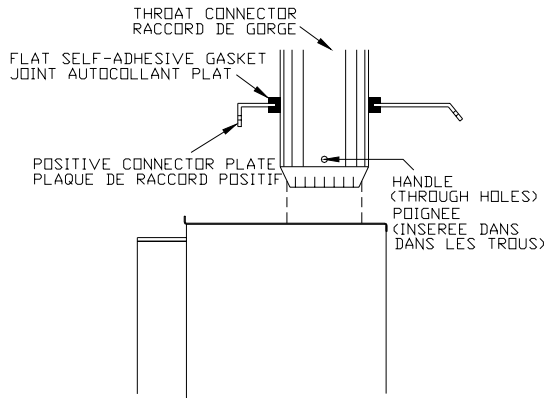

Figure 2
- D. Install the flat self-adhesive gasket around the inside of the 6" diameter (152mm) hole in the plate. Put the handle through the two holes in the throat connector (see Figure 2). Install the female end of the throat connector up through the hole in the plate so that it is held in position by friction, ready to be pulled down later.